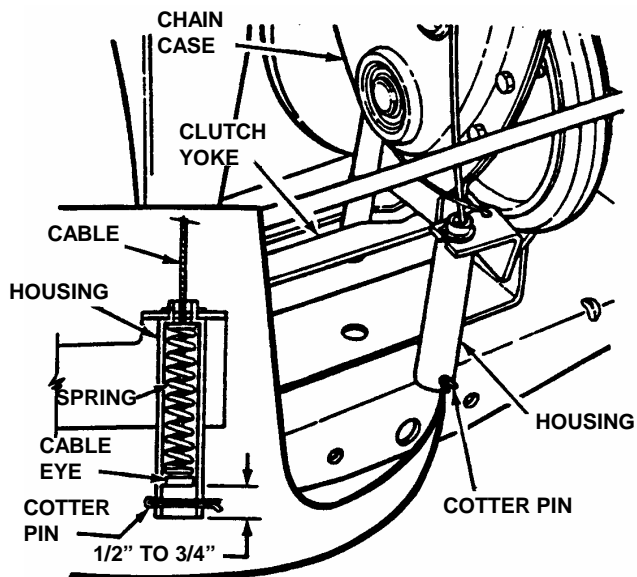

FIGURE 4.7
5. Measure the distance between end of clutch/brake cable and bottom of housing. Measurement should be no less than 1/2" and no greater than 3/4". See inset of Figure 4.7.
7. Adjust cable up or down using the jam-nuts to obtain a distance of 1/2" to 3/4" between end of clutch/brake cable (adjustment shown in inset of Figure 4.7) and bottom of housing. See Figure 4.7.
5. Move transmission shift lever to the neutral (N) position.
6. Rotate clutch yoke (clutch yoke shown in Figure 4.7) out with your hand and work belt between drive disc and rubber driven disc.